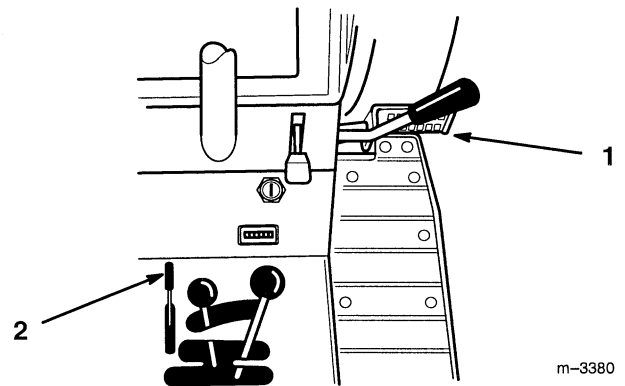

Figure 2
1. Push the brake pedal (Fig. 2) down and hold it in the depressed position.
2. Move the parking brake lever (Fig. 2) back and gradually take your foot off the brake pedal. The brake pedal should stay in the depressed (locked) position.
1. Push down on the brake pedal (Fig. 2). The parking brake lever should release.